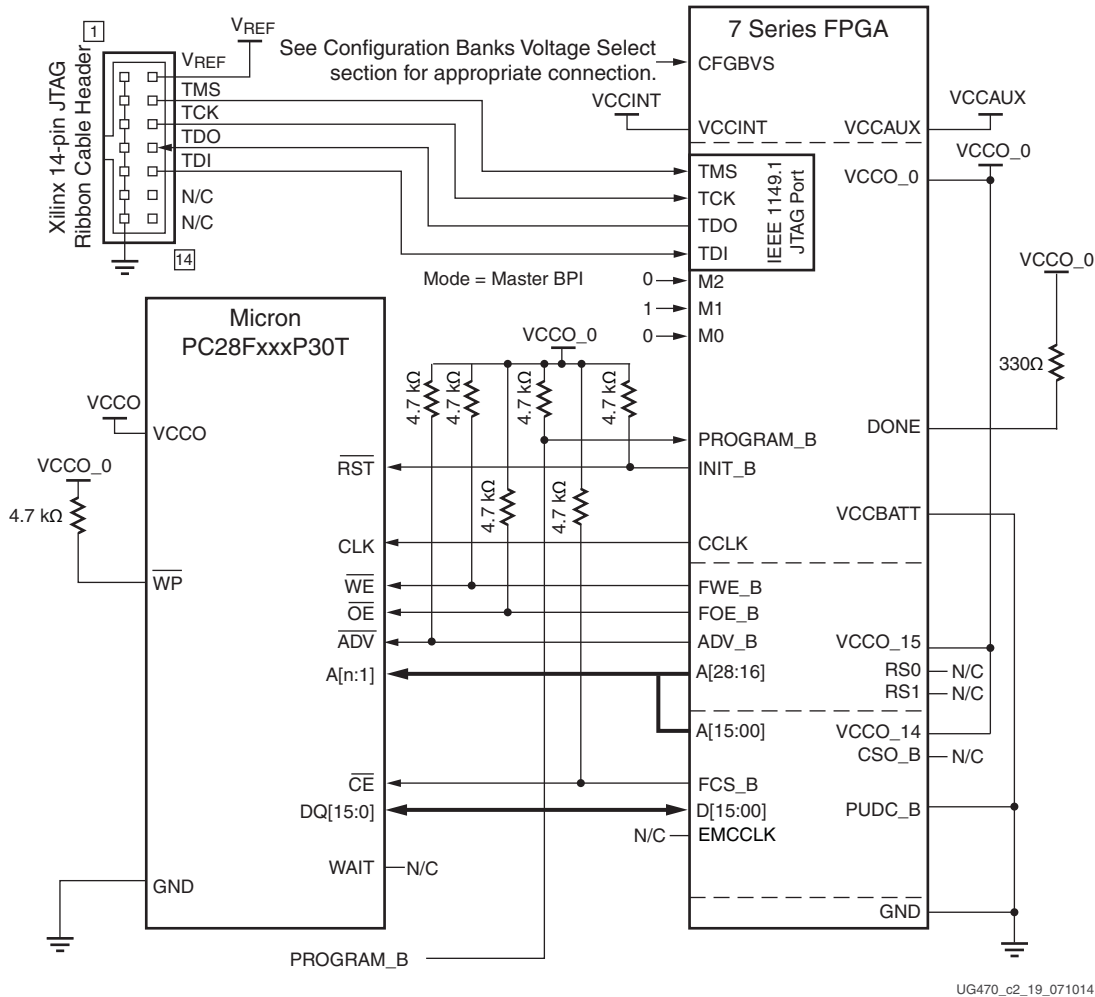

Figure 2-19: 7 Series FPGA Master BPI Configuration Interface Synchronous Read Example
The 7 series FPGA Master BPI configuration mode can optionally read a bitstream from select BPI devices that support burst, synchronous read mode as illustrated in Figure 2-19 and described in Synchronous Read Mode Support, page 61. A BPI device that supports the synchronous read mode latches a given start address from the FPGA into its internal address counter. Then given a clock, the flash outputs data from the next sequential address location to its data bus during each clock period. In the synchronous read mode, a BPI device can deliver data many times faster than through its asynchronous read interface.
The Master BPI synchronous read mode (Figure 2-19) supports the flash families in Table 2-14 with synchronous support. The FPGA starts in asynchronous read mode, using the default CCLK frequency, and the bitstream header determines if the read mode continues asynchronously or if it switches to the faster synchronous read mode. Bitstream commands initiate the switch from asynchronous read to synchronous read if the **BPI_sync_mode** option is set. There are two available settings for the option: Type1 or Type2. Type1 is used to set the G18F flash family synchronous and latency bits and Type2 is used to set the P30. The switch to synchronous mode is done by the FPGA controller, which performs an asynchronous write to the BPI flash configuration register to set the device into synchronous mode and initiate a bitstream reread. To support the synchronous read mode, the FPGA CCLK output is connected to the BPI flash device, and the ADV_B FPGA signal must be connected to the Micron flash \overline{ADV} signal.
Notes relevant to Figure 2-19:
1. The 7 series FPGA synchronous read mode requires a few additional connections over the asynchronous mode. The FPGA CCLK must be connected to the flash CLK signal and the FPGA ADV_B must be tied to the flash \overline{ADV} signal. This setup shown in Figure 2-19 supports the FPGA powering up initially in asynchronous mode and then switching over to synchronous mode.
5. Only the x16 data width shown in Figure 2-19 is supported by the synchronous read mode.
7. The RS[1:0] pins are not connected as shown in Figure 2-19. These output pins are optional and can be used for MultiBoot configuration. See Chapter 7, Reconfiguration and MultiBoot.
10. The FPGA mode (M[2:0]) pins are shown set to Master BPI mode (010). The implementation of a board-level option that enables the user to change the FPGA mode pins to JTAG mode (101) is recommended to enable JTAG-based debug capability for the FPGA during design. This is not required, but the JTAG mode setting ensures that there is no interference from the Master BPI configuration during debug.